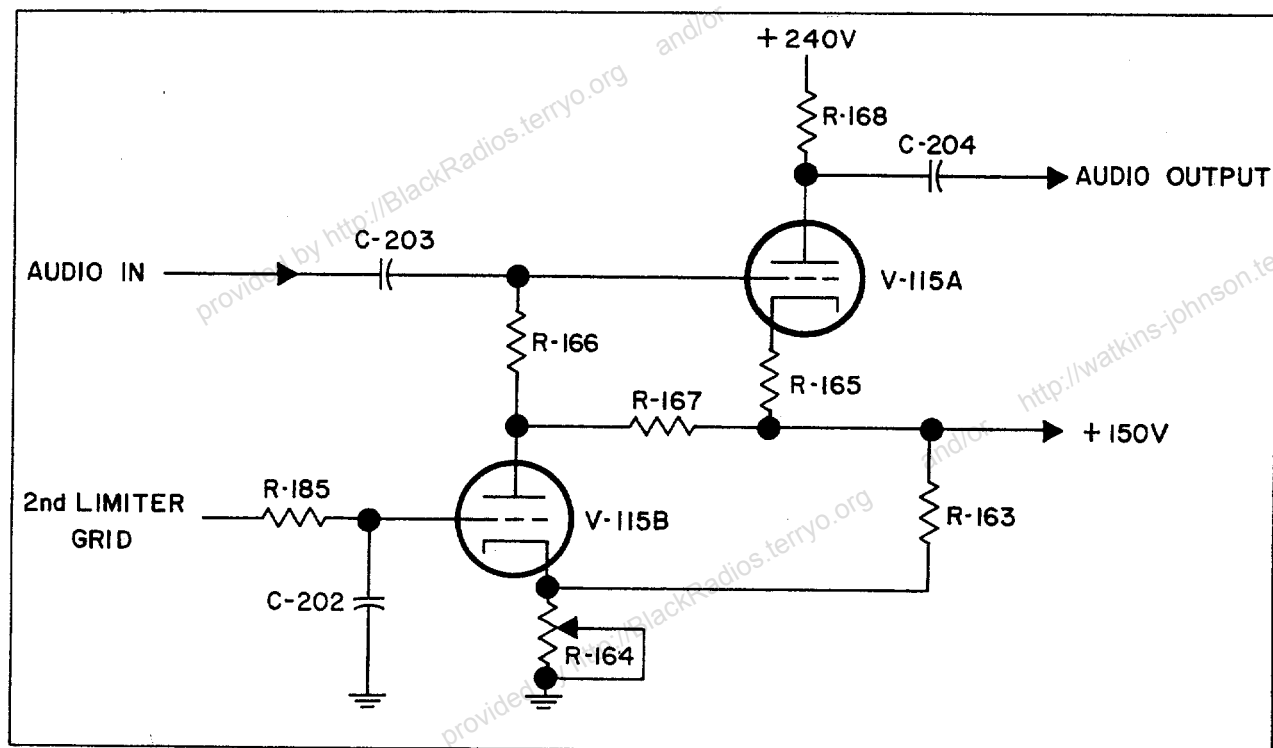

Fig. 2-2. Models 1501 and 1502 Receiver Squelch Circuit, Simplified Schematic
e. THE SQUELCH CIRCUIT.--The squelch circuit is best described with the aid of the simplified schematic of Fig. 2-2. V-115A acts as a gated audio amplifier stage, while V-115B serves as a d-c amplifier and gate generator. The circuit is connected in such a manner that V-115B has zero grid voltage when no signal is being received and has a negative signal applied when a carrier is being received. The audio amplifier stage, V-115A, will pass an audio signal when the d-c amplifier, V-115B, is nonconducting, and will not pass an audio signal when V-115B is in a conducting condition. In this manner the audio circuit is disabled when no carrier is being received. The carrier strength necessary to make the audio section operative is adjusted by the threshold (squelch) control R-164. The operation of this circuit is detailed in the following paragraph.